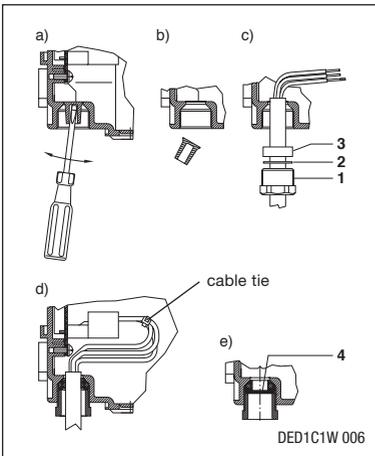

Figure 1 : Back row
- Back row (Fig. 1): screwdriver DIN 5262-B, size 1 (ø 4.5 mm)